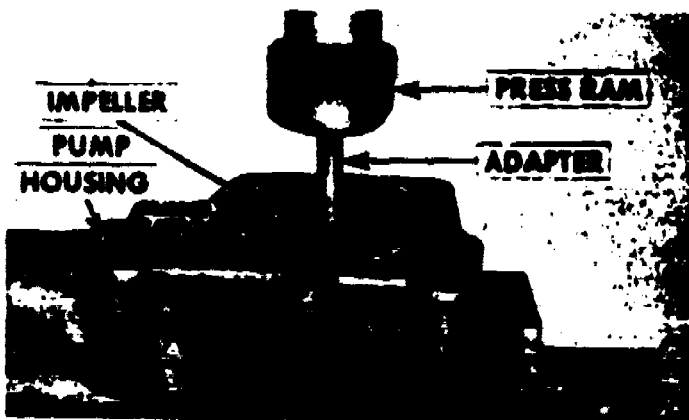

Fig. 90 - Pump Shaft and Bearing Removal
3. Support water pump on an arbor press and push shaft and bearing out of body and impeller (Fig. 90).